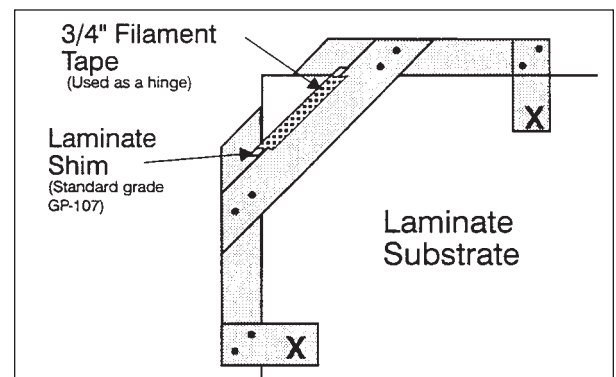

FIG 14C
**FAB TIP:** Machining through  $\frac{3}{4}$ " countertop (with a  $\frac{1}{2}$ " bit) can produce a poor quality cut on the edge surfaces of the substrate. It is always best to first make a rough cut and then a second finishing cut. This procedure can more easily be accomplished by attaching (with filament tape) a strip of laminate to the front side of the Template. (FIG. 14C)